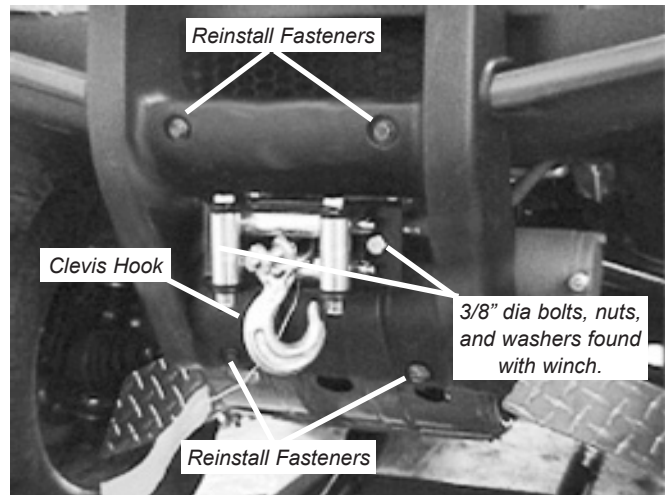

Figure 19 Completed Winch Installation on Rubicon
14. If no more interferences exist between the upper mounting bracket (A1) and front fascia, reinstall the fascia with the fasteners removed in step 1 as shown in figure 19.
15. Attach either the cast-iron hawse or roller fairlead (depending on your winch kit) to the upper mounting bracket (A1) using M10 x 30 bolts (C7) included, and nuts and washers provided with the winch as shown in figure 19. Hawse users will need to remove the hawse from the fairlead plate before mounting on the upper mounting bracket. Tighten all nuts and bolts securely.
16. Switch the winch clutch to freespool. Manually feed the winch cable through the hawse or roller fairlead. Attach the clevis hook, found with the winch, to the end cable loop as shown in figure 19. Reengage the winch clutch. If you notice that the winch cable can rub against the front plastic fascia during winch operation, jump back to step 13 and remove more plastic material.
Winch and winch mount installation is now complete and should look like figure 19. Proceed to section V, entitled “Maintenance/Care”.